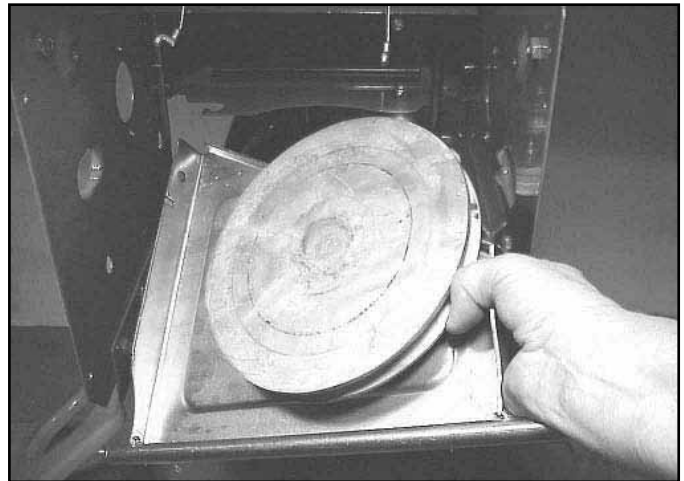

Fig 144
27. Remove the pivot pulley plate assembly from the housing (Fig. 144).